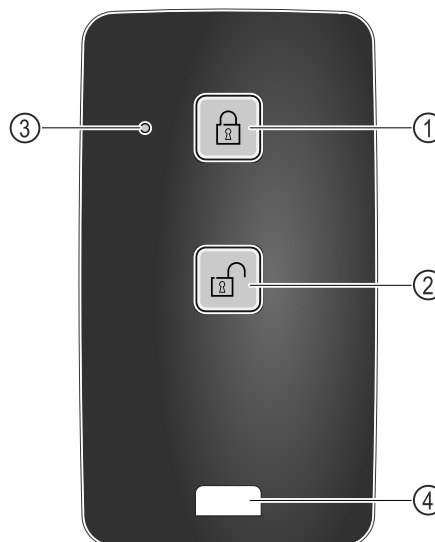

Fig. 149
- Press button Fig. 149 (1) on the remote control.
- Press button Fig. 149 (2) on the remote control.
- Status LED Fig. 149 (3) provides a visual acknowledgement when you press the button.
- Eyelet Fig. 149 (4) for attaching remote control, for example, to a key ring.